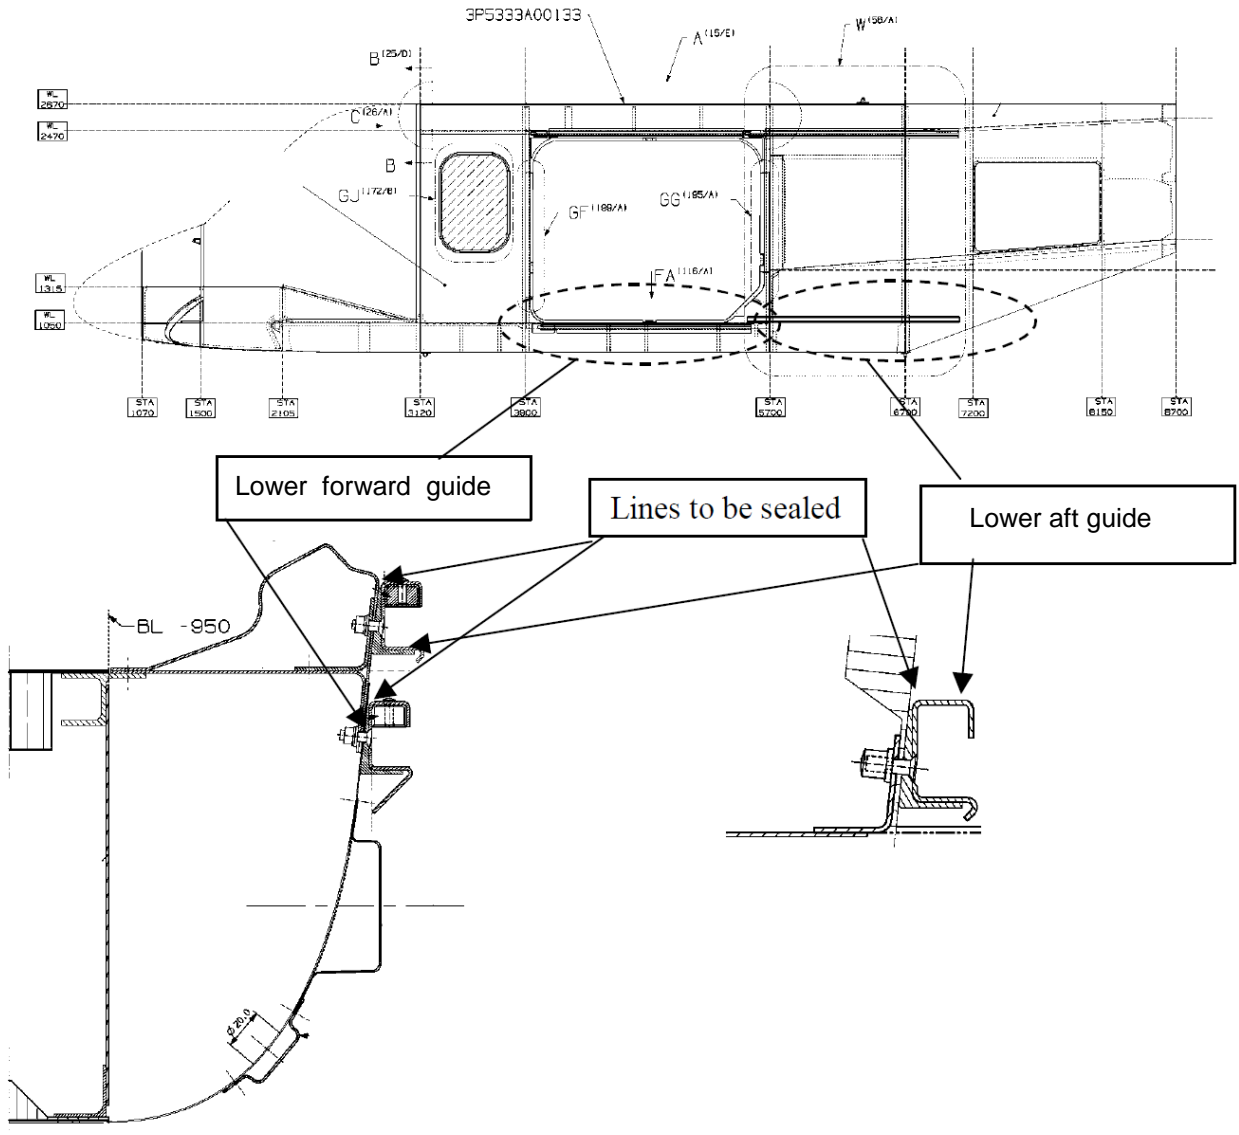

Figure A-7
- 2.1 joint between lower forward and aft guide assy and fuselage skin (near STA5700, the aft lower guide assy joint involves also the lower frame of pax door) - see Figure A-7.